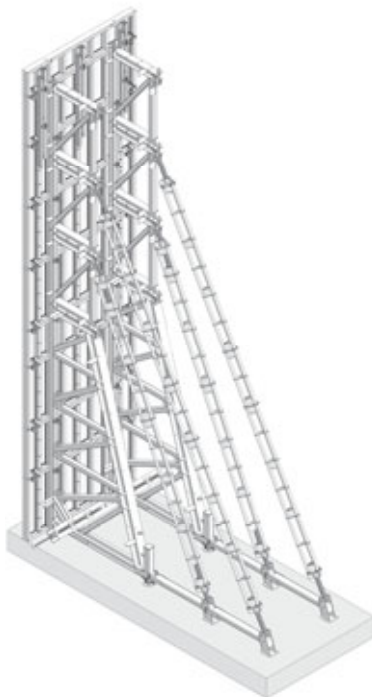

Fig. 5.3 Up to a formwork height of 9.50 m:
- 8.00 m – 2 height extensions, base extensions, Triplex SB braces (Fig. 5.3)
- 9.50 m – 3 height extensions, base extensions, Triplex SB braces (Fig. 5.3)